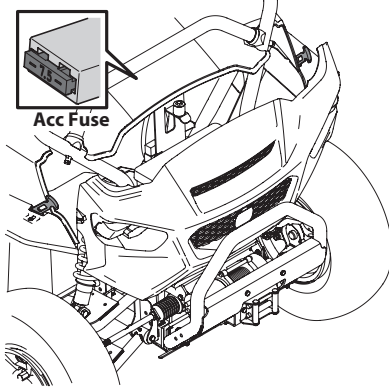

Figure 4-8
2. Remove the Acc (accessory) electrical fuse and replace if needed with proper rated amp fuse. See Figure 4-8.